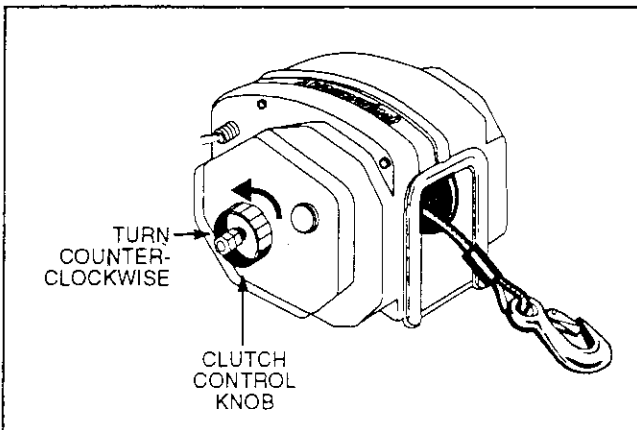

Figure 4 Clutch And Brake Release
3. The clutch control knob on the side of the winch controls winch braking. Turn the knob fully counter-clockwise. This releases the clutch (See Figure 4).